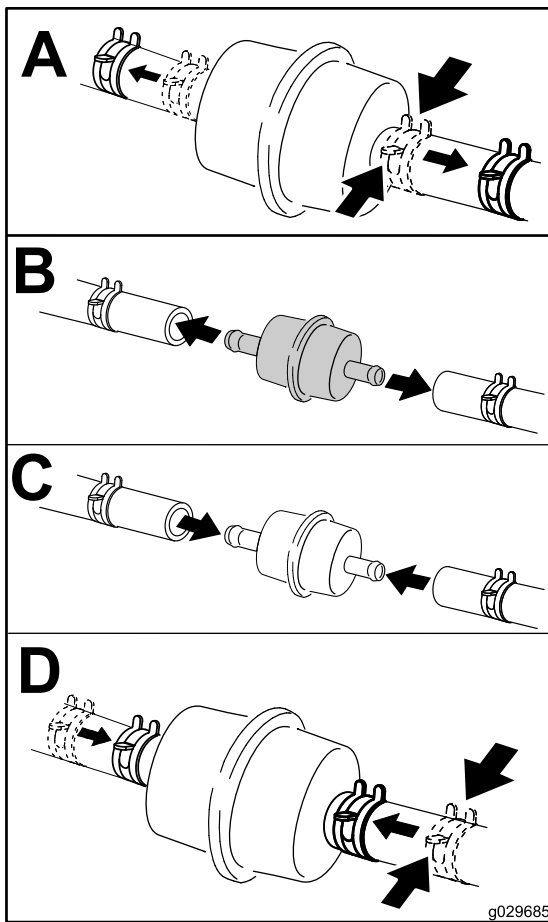

Figure 68
4. Replace the fuel filter (Figure 68).